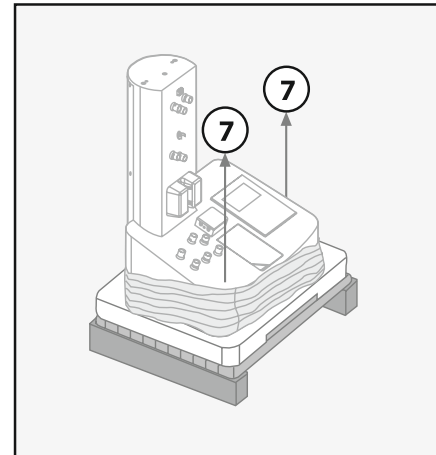

Figure 1.12: Lift the instrument.
7. Unwrap the large shipping bag (see Figure 1.12).